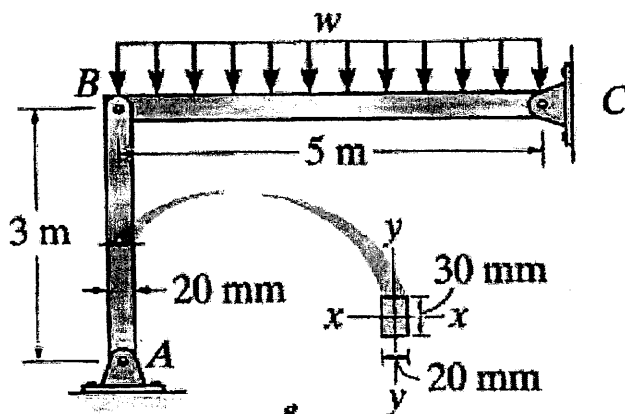

Fig. 6
6. The steel bar AB has a rectangular cross section $20 \text{ mm} \times 30 \text{ mm}$ along x and y axes, respectively. If this bar is pin connected at its ends, as shown in Fig. 6, determine the maximum allowable intensity w (N/m) of the distributed load that can be applied to BC without causing AB to buckle or yield. Take $E_{st} = 200 \text{ GPa}$ and $\sigma_y = 360 \text{ MPa}$. (15%)